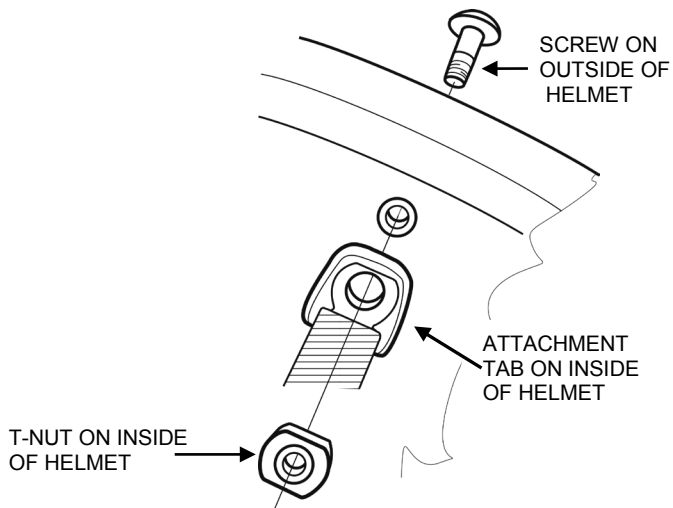

Figure 6. Improved H-Nape Retention System.
- b. For improved H-nape retention systems, attach the retention assembly to the helmet using the hardware you removed earlier (Figure 6). Ensure webbing is not twisted.